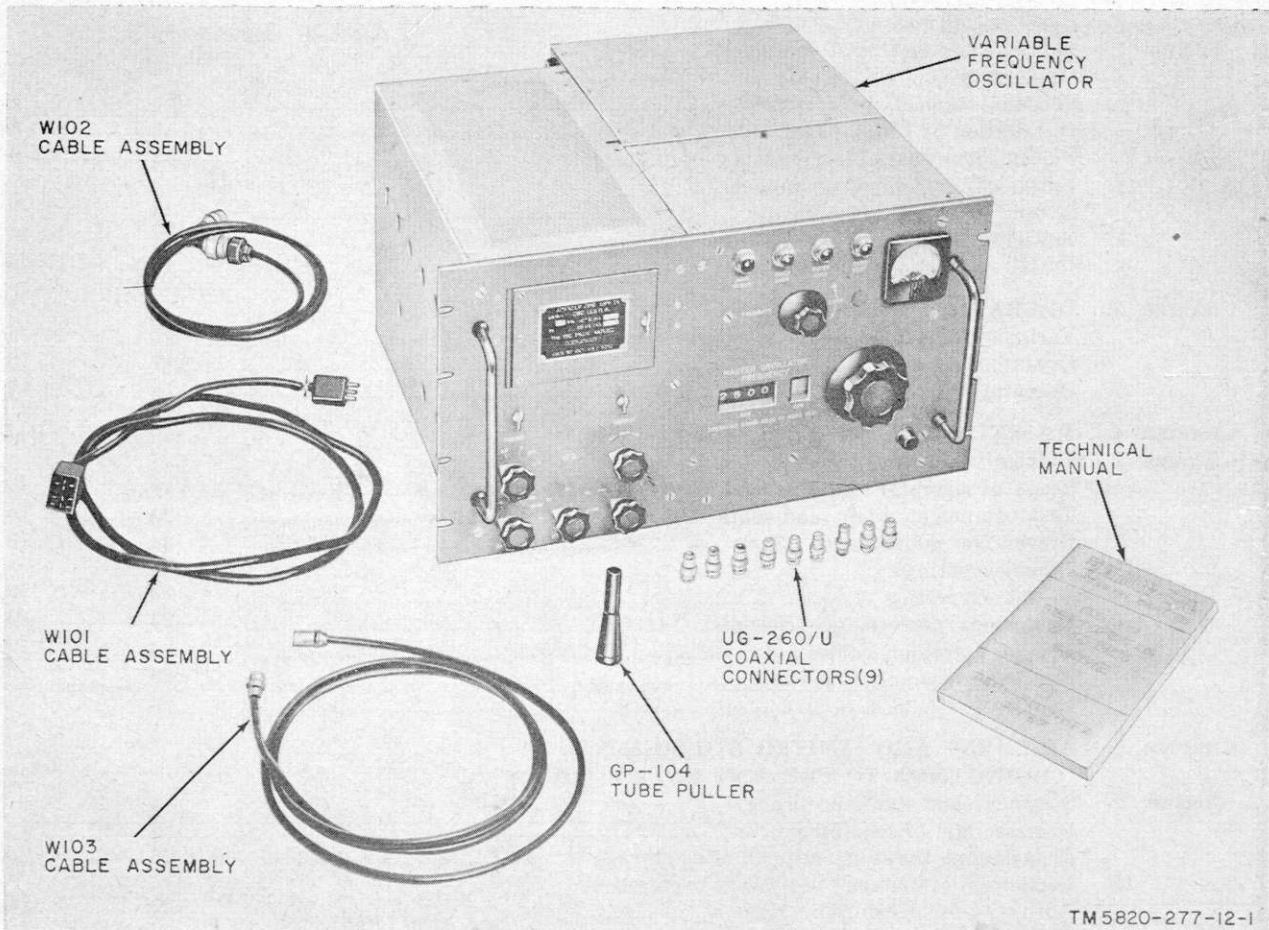

Figure 1. Oscillator, Radio Frequency O-330A/FR, less spare parts.
This manual describes Oscillator, Radio Frequency O-330A/FR, (fig. 1) and covers its installation, operation, and operator's and second echelon maintenance. Throughout this manual, the front panel and chassis assembly is referred to as the variable frequency oscillator. The manual includes instructions for cleaning and inspection of the equipment, and replacement of parts available to first and second echelon maintenance personnel. Maintenance allocation charts are included in TM 11-5820-277-20P.
a. Components (fig. 1).
d. Cable assemblies W101, W102, and W103 (fig. 1) permit connection between the power supply chassis and the main unit while the power supply is removed from the main unit (par. 24). Each cable assembly is 6 feet in length and is composed of component parts as follows:
- (1) Cable assembly W101 consists of a length of 12-conductor cable with a rectangular 12-contact male plug at one end and a similar 12-contact female plug at the other end.
- (2) Cable assembly W102 consists of a length of six-conductor cable with a 7-pin round male plug at one end and a similar female plug at the other end.
- (3) Cable assembly W103 consists of a length of coaxial Radio Frequency Cable RG-59/U with a Coaxial Connector UG-260/U at each end.